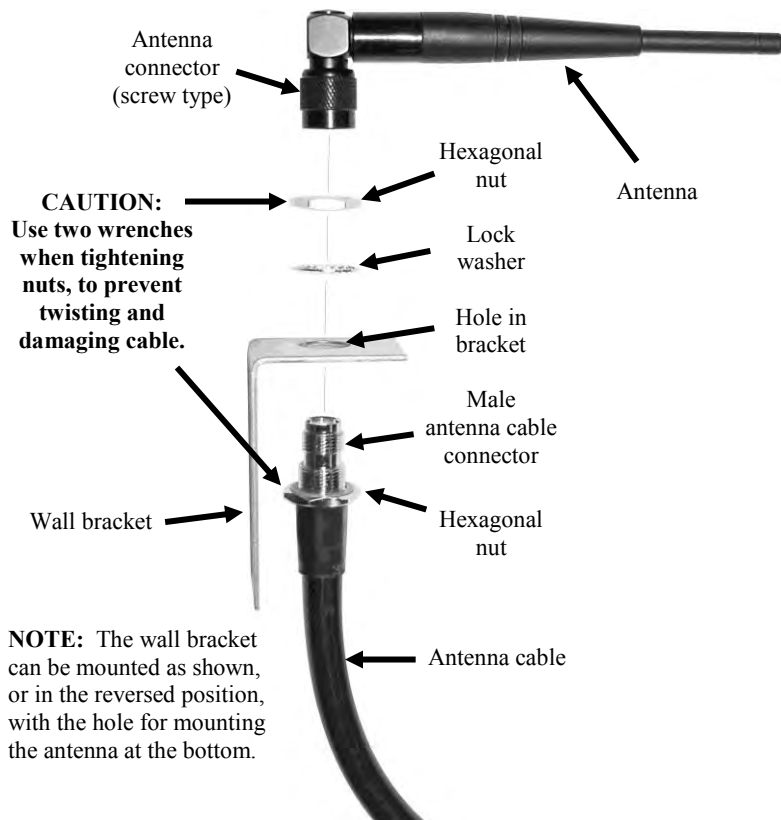

Figure 15. Remote antenna mounting on wall bracket
- Insert the antenna cable connector through the hole in the mounting bracket as shown in Figure 15, and screw the hexagonal nut onto the connector to secure it in place on the bracket.